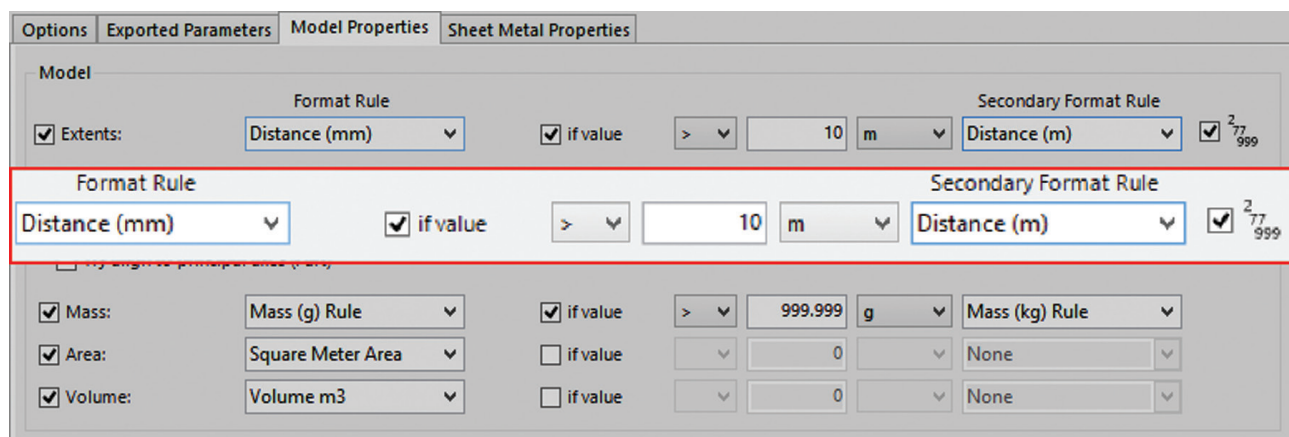

Figure 8: Exported properties secondary format rule
- All exported properties now support an optional second format rule. A single comparison operator provides the division of "primary" and "secondary" formatting (see Figure 8).